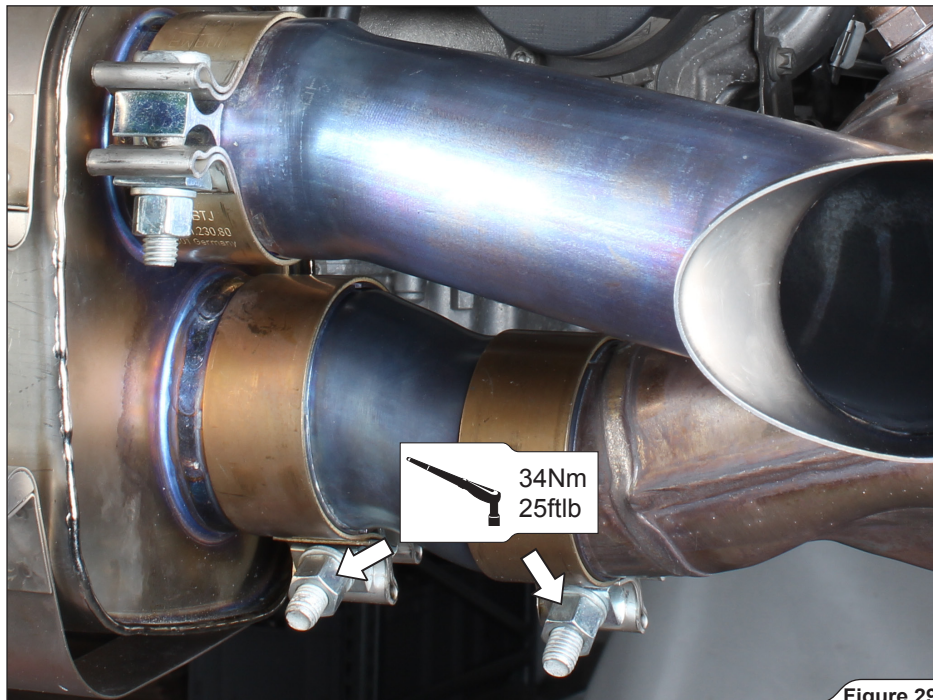

Figure 29
6. Tighten the marked clamps to a specified torque, on both sides of the vehicle (**Figure 29**).